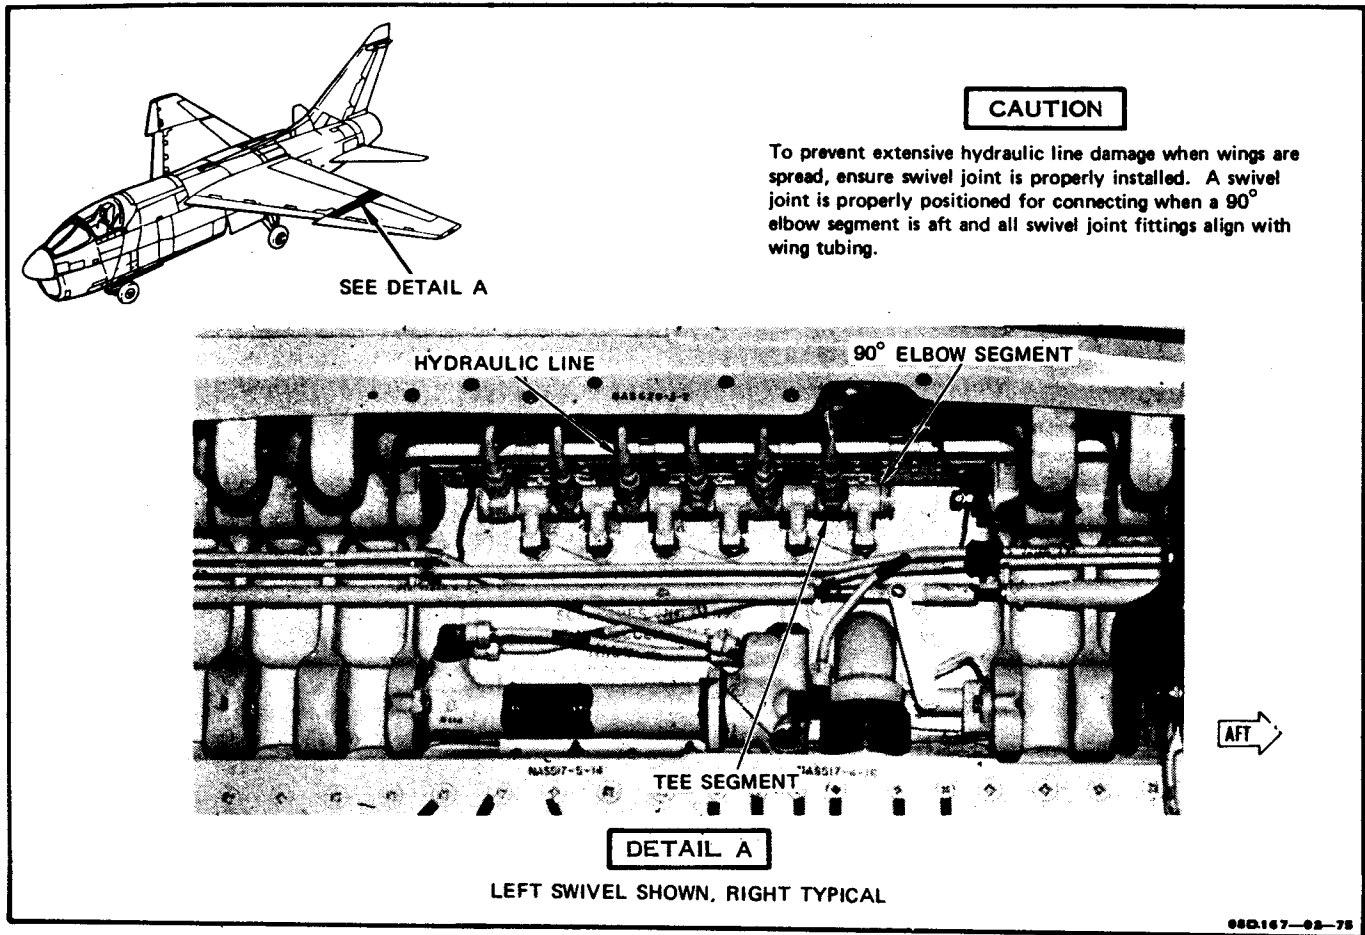

Figure 2-13. Wingfold Swivel Joint Removal and Installation
**2-80. REMOVAL. (See figure 2-13.)**
2-81. **INSTALLATION.** (See figure 2-13.)